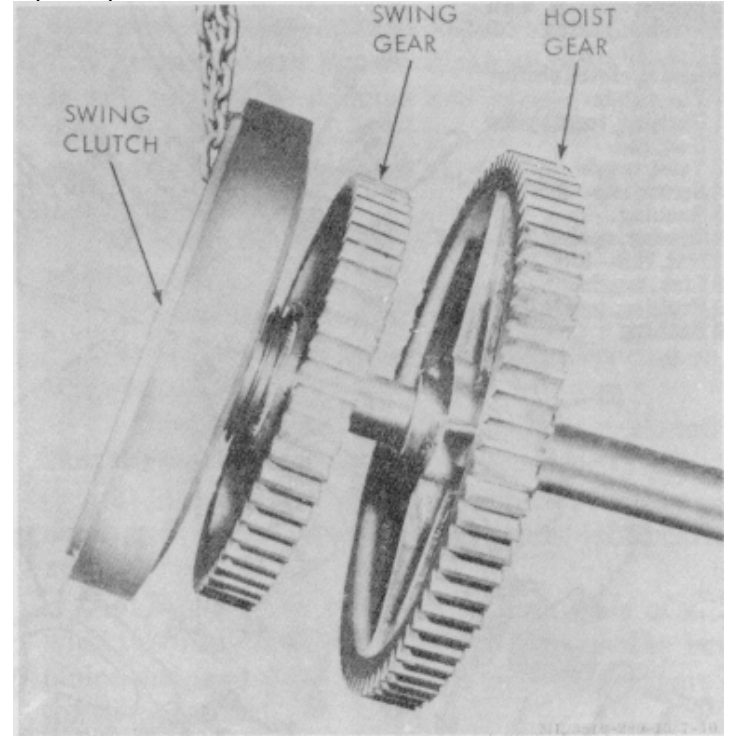

Figure 4-12. Rear drum shaft assembly (left side).
(1) General Assembly instructions are presented in two sections: Assembly from the left, assembly from the right. Either sequence may be taken first.
(2) Assembly operation from the left (fig. 4-12).